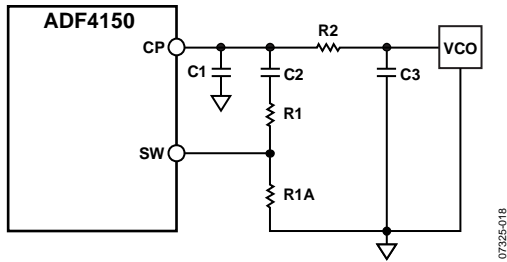

Figure 23. Fast-Lock Loop Filter Topology—Topology 1
- The damping resistor (R1) is divided into two values (R1 and R1A) that have a ratio of 1:3 (see Figure 23).